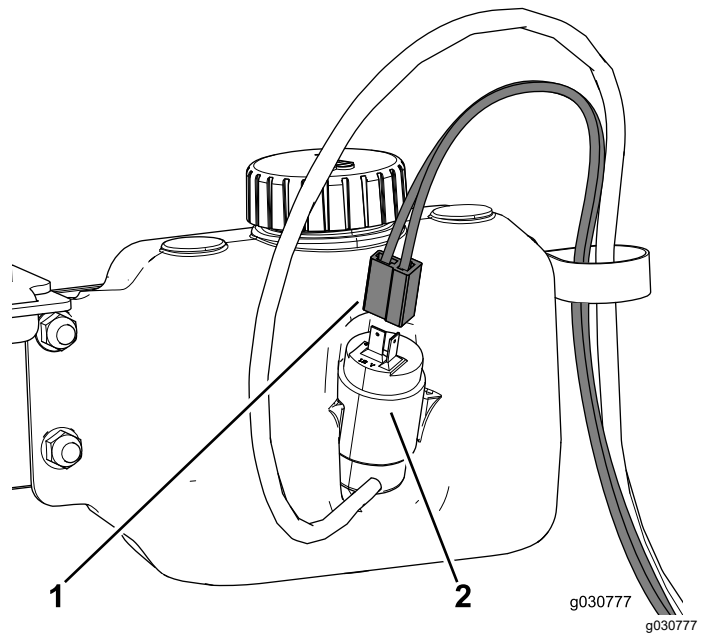

Figure 52
4. Route the wire harness for the washer bottle through the R-clamp and connect it to the bottle (Figure 52).